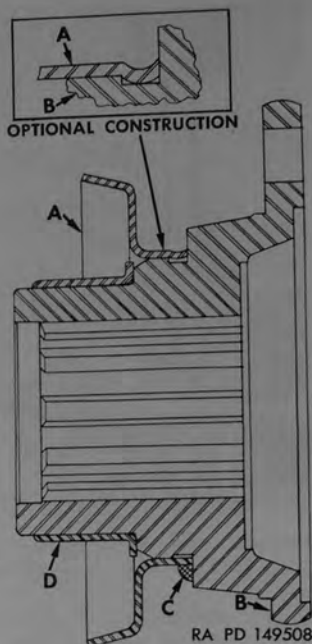

Figure 60. Sectional view of input shaft flange assembly.
- (7) Examine input shaft front bearing retainer (D). If evidence of excessive wear appears at surfaces contacted by bearing and snap ring, or if retainer is distorted or otherwise damaged, the retainer should be replaced.
- (8) Inspect deflector and oil seal sleeve on input shaft flange assembly (fig. 60). If surface of sleeve is scored or grooved at point of contact with oil seal lip, or if deflector is bent or otherwise damaged, these parts should be replaced. Refer to c below for procedure necessary to replace sleeve and deflector.
- (9) Check width of fork groove on sliding gear (L). Replace gear if groove is worn (par. 343a).
- (b) File off any weld metal at flange shoulder which would prevent new deflector from seating against shoulder; then locate new deflector on flange as shown in figure 60.
- (c) Either of the methods shown in figure 60 may be used to attach new deflector to flange. When peening deflector into groove as shown in inset (fig. 60), use peening tool and peen in four equally spaced places. If welding is employed, tack weld deflector to flange in three places.
- (2) *Replacing oil seal sleeve on input shaft flange assembly.*
- (a) Using a light-weight hammer, tap sleeve (fig. 60) over entire exposed area to stretch metal and loosen sleeve on flange; then use chisel to cut through sleeve flange. Pry sleeve off flange assembly.